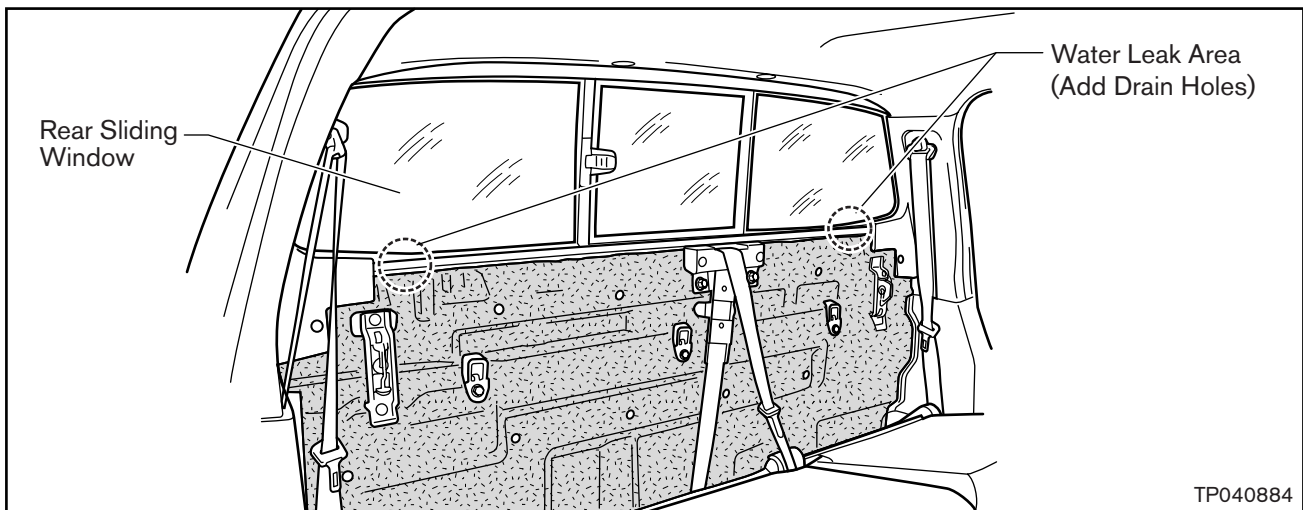

Figure 1
Water is leaking from the Rear Sliding Window Track into the passenger compartment (see Figure 1).
- Add drain holes to the Rear Sliding Window Track (see Figure 1).